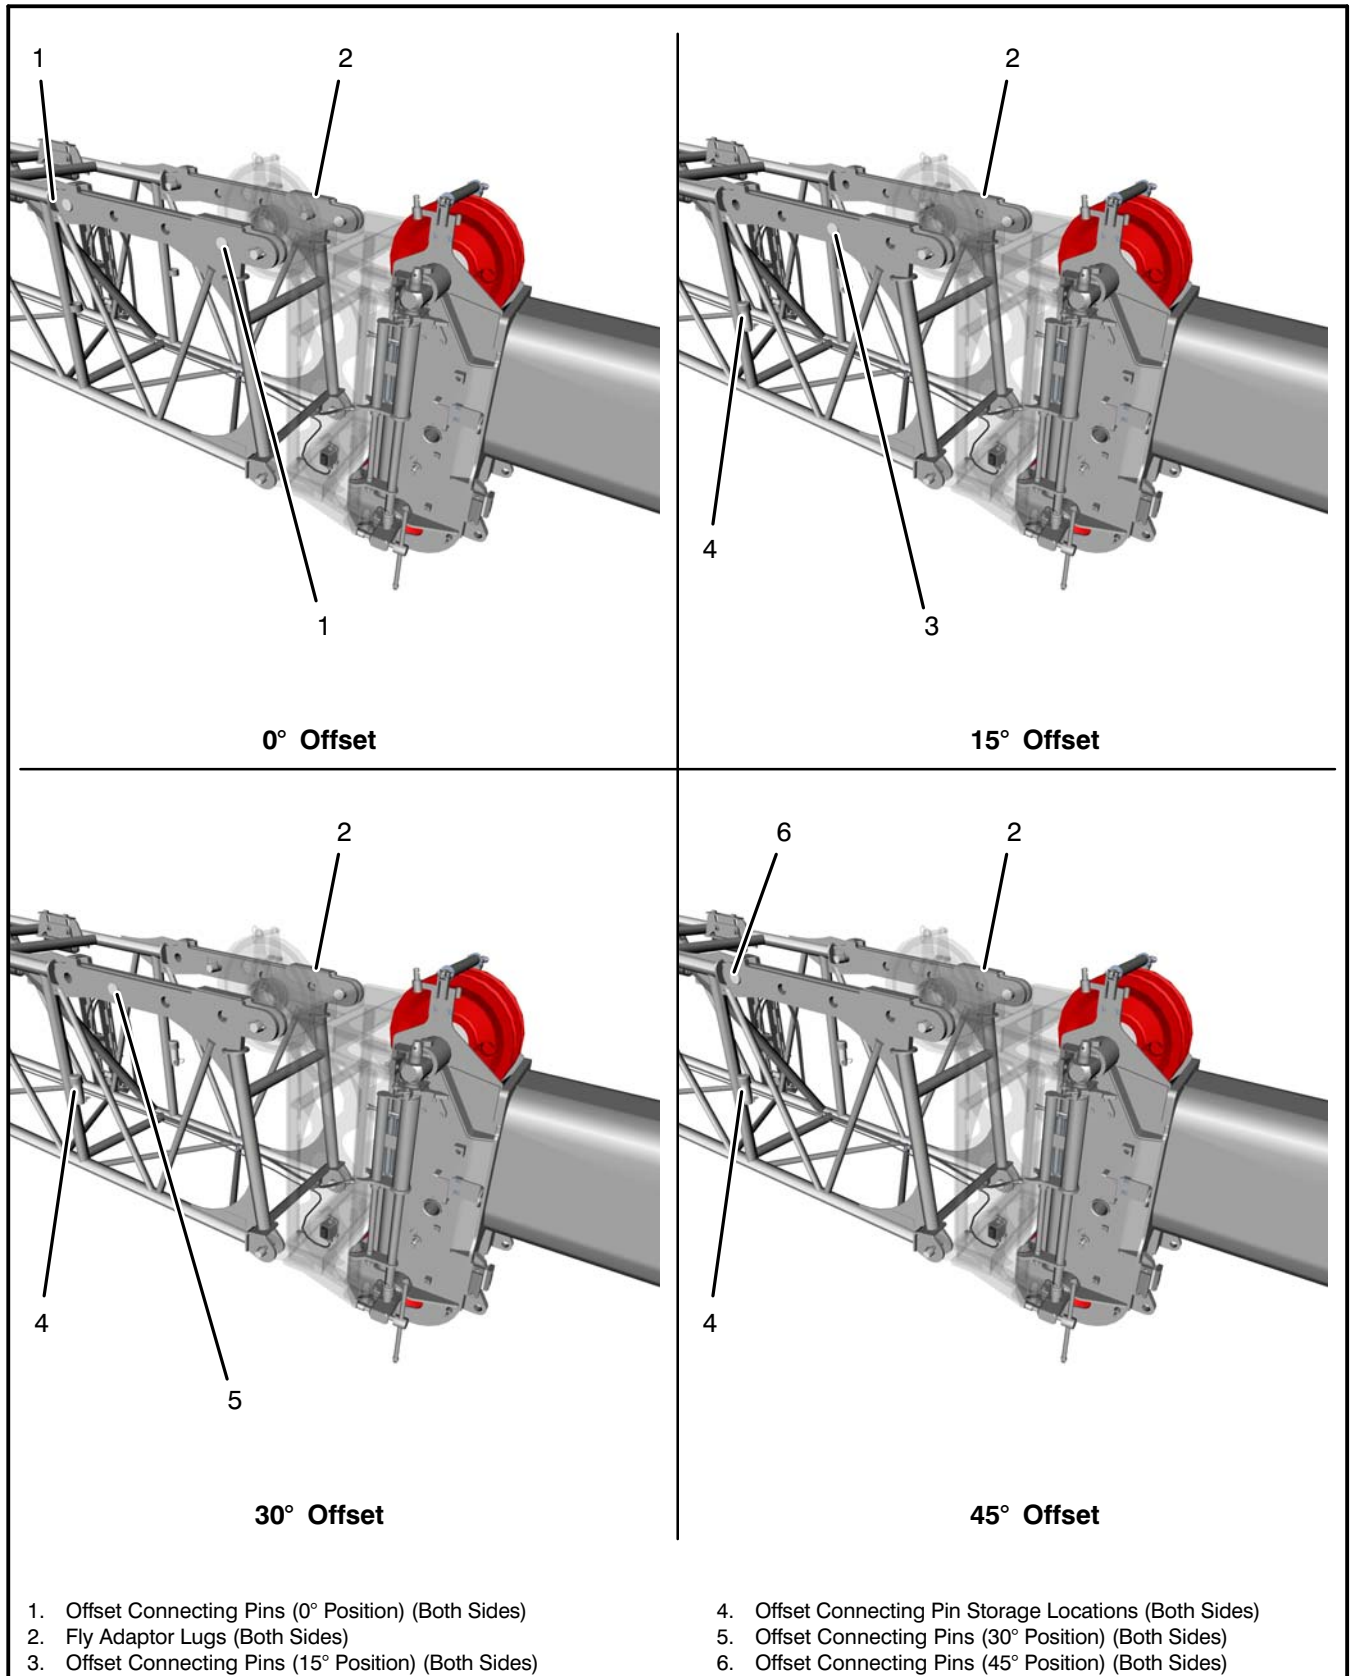

Figure 4–61
44. Engage the fly tip front storage connecting pin. Refer to Figure 4–43.
45. Engage the fly base and tip rear storage connecting pins. Refer to Figure 4–60.
48. Remove the hand line from the swing hook on the fly base. Refer to Figure 4–56.
49. Remove the keeper pin and pivot up the wire rope guard on the boom deflector sheave. Refer to Figure 4–3. Reeve the wire rope over the boom deflector sheave. Install the wire rope guard and secure with keeper pin.
50. Remove the wire rope guard from the boom head sheave or auxiliary lifting sheave, as required. Refer to Figure 4–2. Reeve the wire rope from the boom deflector sheave over the boom head sheave or auxiliary lifting sheave. Install the wire rope guard on the boom head sheave or auxiliary lifting sheave, as required.